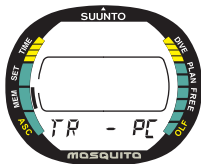

Fig. 5.11. Data Transfer and PC-Interface
1. In the Memory Mode [MEM], press S three (3) times to select the Data Transfer Mode. The TR-PC text appears at the bottom of the display to indicate the selected mode (Fig. 5.11.).